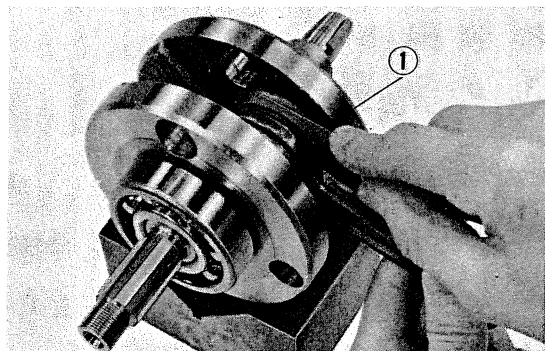

Fig. 85 Connecting rod large end clearance measurement
① Dial gauge ② V block
- 2) Check the clearance of the connecting rod large end. (Fig. 85)